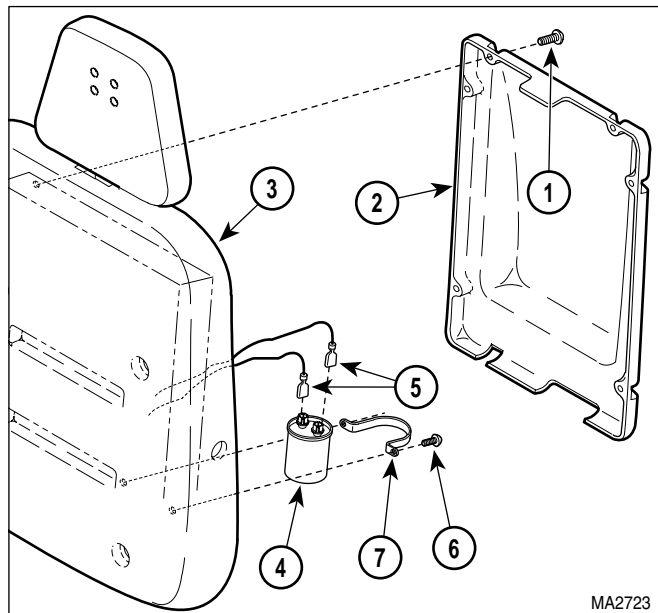

Figure 4-16. Base Capacitor Removal / Installation
- (2) Unplug power cord from wall outlet.
- (3) Remove six screws (1, Figure 4-16) and back cover (2) from back plastic section (3).